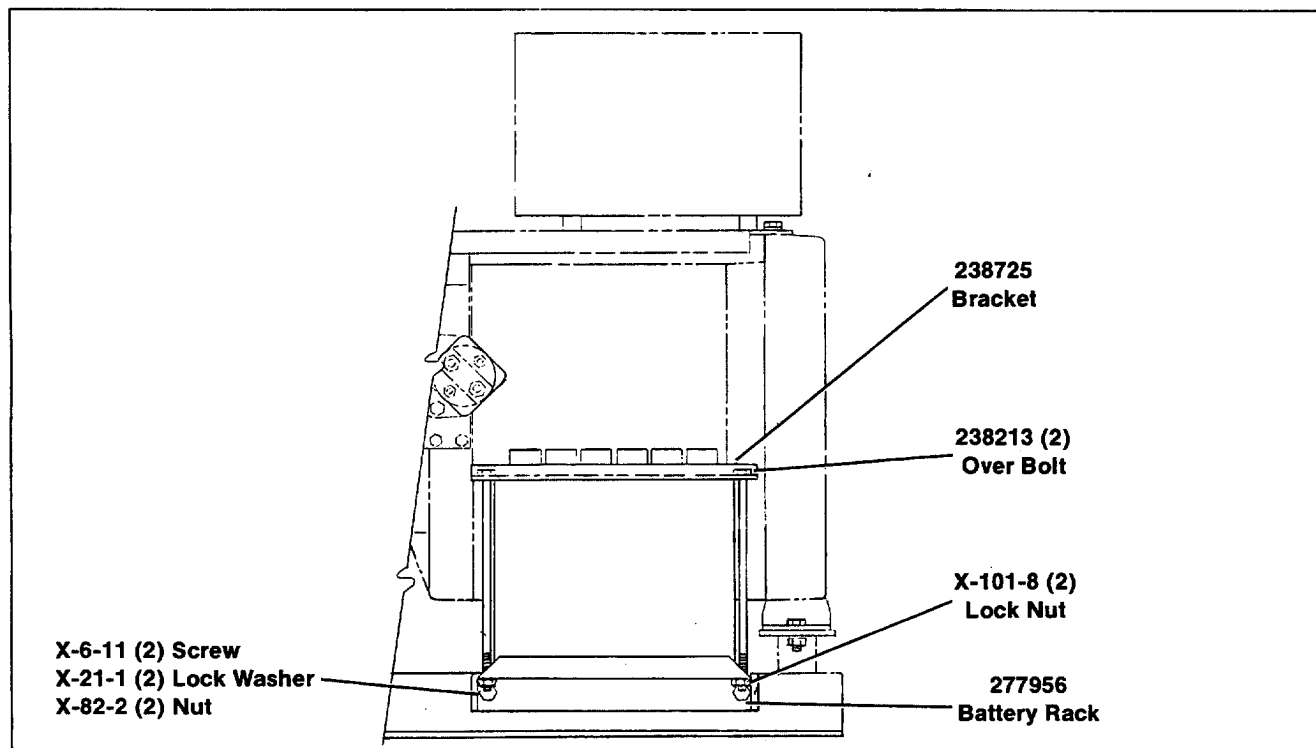

Figure 2. 7RMY Battery Rack Kit
- On 7RMY models, locate pre-drilled holes in skid on left side as viewed from generator end. See Figure 2. Mount battery rack to skid using two screws, lock washers, and nuts.